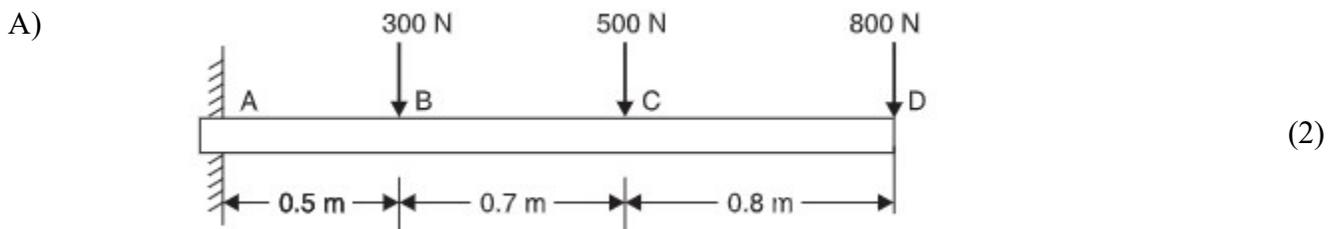

Figure 1
- 1) A cantilever beam of length 2m carries the point loads as shown in figure 1. Draw the shear force and shear force diagram for the cantilever beam.